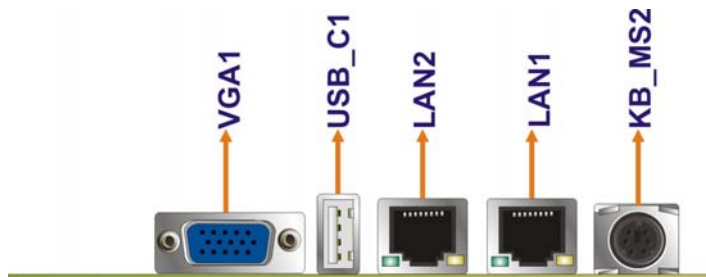

Figure 4-19: PIC0e-945GSE External Peripheral Interface Connector
Figure 4-19 shows the PIC0e-945GSE external peripheral interface connector (EPIC) panel. The PIC0e-945GSE EPIC panel consists of the following:
- CN Location: See **Figure 4-19**
CN Location: See **Figure 4-19**
- CN Location:See Figure 4-19